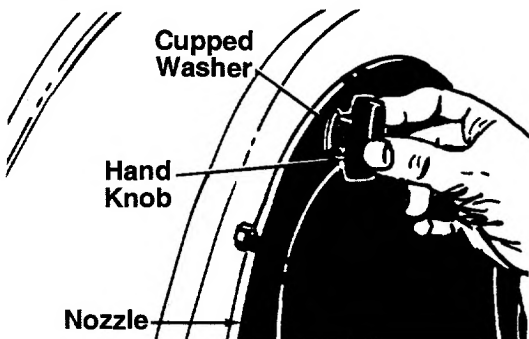

FIGURE 4.
Place nozzle in position on front of housing so that it rests in flanges. Secure with one hand knob and cupped washer (cupped side of washer against the nozzle). See figure 4.
2. Remove the nozzle by removing one hand knob and cupped washer. Refer to figure 4.